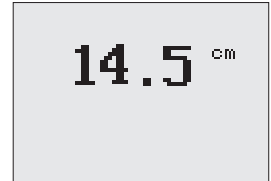

Figure 26: Depth Main Screen
- Imperial or metric units as shown in Figure 26.